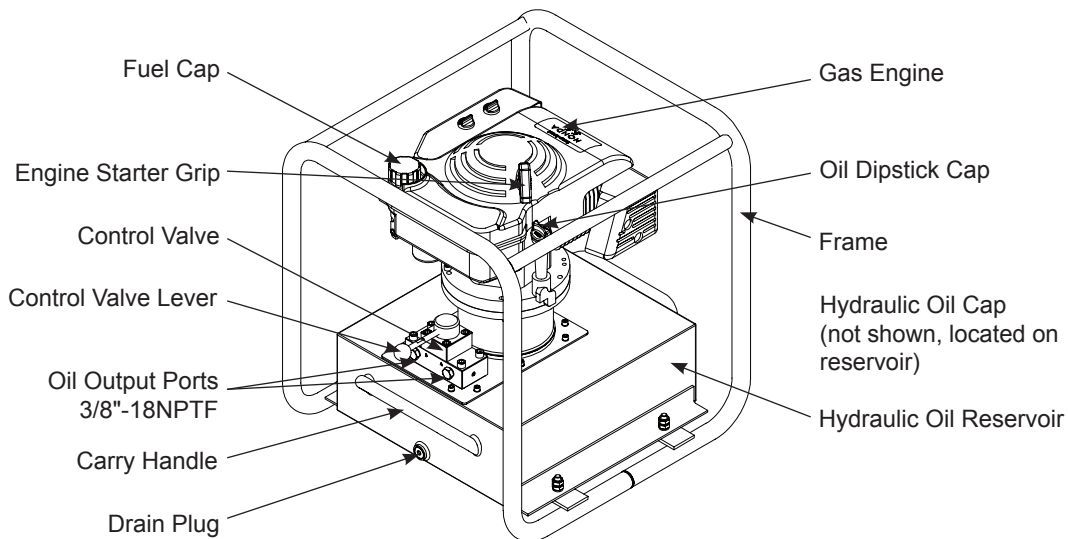

Figure 1 - Model 5G55H5G Components
2. Familiarize yourself with the specifications and illustrations in this owners manual. Many malfunctions in new equipment are the result of improper operation and/or improper set-up assembly. Know your pump, its limitations and how it operates before attempting to use. Refer to specification chart and figure 1 on page 2 for details of oil port thread size, usable oil capacity and more. Read and follow all instructions carefully.